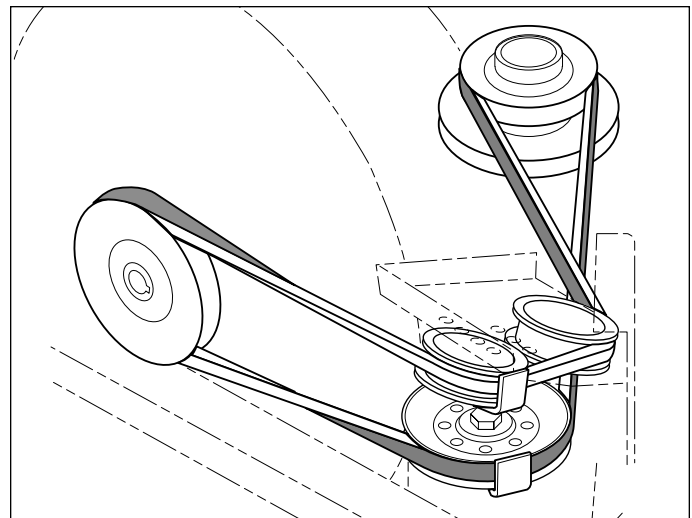

Figure 13. Belt Routing
11. Loosen the idler pulleys and install the belt under the belt keeps. Make sure the groove of the belt is properly seated in the v-pulleys (see Figure 13, the gray section is the flat side of the belt). Reposition the belt keeps so they will not interfere with the drive belt and tighten the idler pulleys.